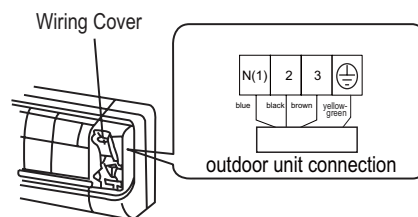

Fig.2
2. Remove the wiring cover. Connect and fix the power connection cord to the terminal board, as shown in Fig.2.